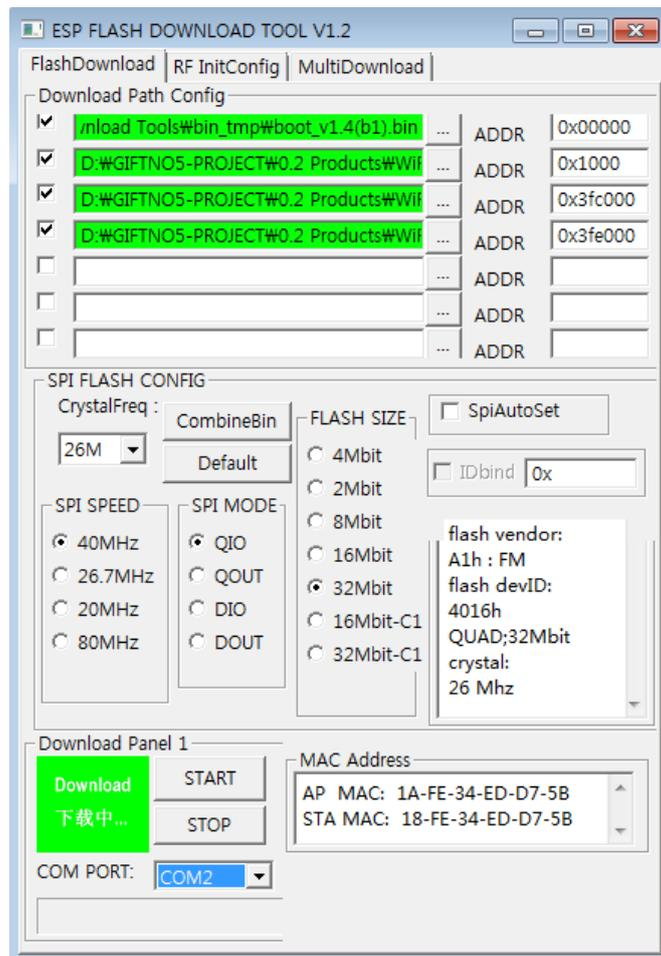

Figure 3-6 Program Downloading
4、 Import the files need to be programmed in program software "Download Path Config" and set SPI SPEED, SPI MODE, FLASH SIZE and BAUDTATE parameters, click "START" button, splats change from "Waiting" to "downloading", which means program download started, please refer to figure 3-6: